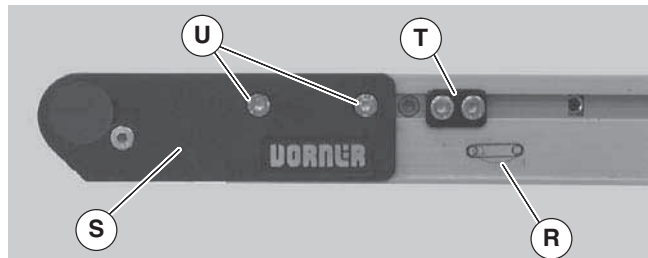

Figure 20
6. Using finger grip holes (AN), open the tension door (AO) to release conveyor belt tension.
7. On tension end of the conveyor, identified with a  label (Figure 20, item R), push in head plate assembly (S): On both sides of conveyor, loosen and move cam tracking assemblies (T) (if equipped) away from head plates, then loosen fastening screws (U) and push head plate assembly inward.